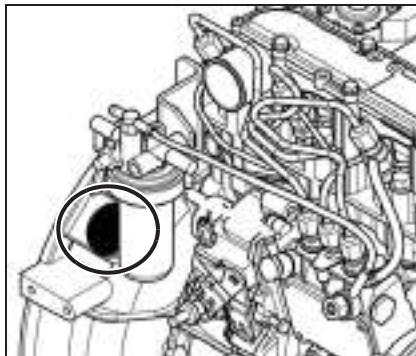

Fig. 4: Flywheel housing cap
- ✎ Remove the cap on the flywheel housing, see Fig. 4